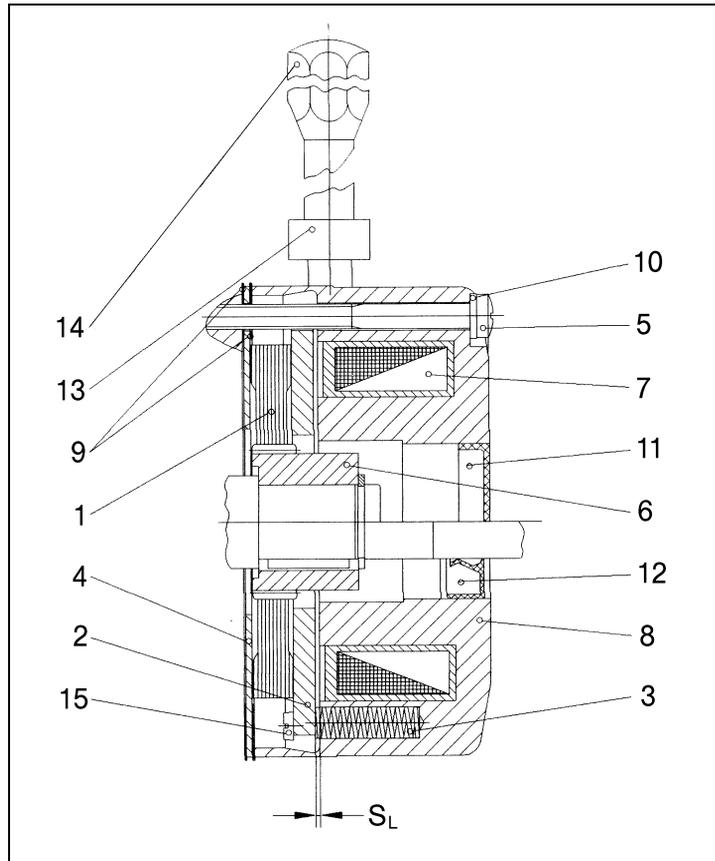

Fig 1: Spring-pressure brake, series E003B and E004B
- 3 Operating principle The operating principle is explained by Fig. 1.
- 3.1 Brakes The springs (3) press the brake disc (1) axially against the friction plate (4) via the retaining plate (2). The fillister screws (5) prevent radial movement of the retaining plate. The braking torque is transferred to the rotor via tothing between the brake disc and the driver (6) fixed to the shaft. The braking torque can be altered in stages with the number of springs (see Section 7).
If the brakes have to be fitted separately, proceed as follows (see Fig. 1):
The manual release can only be fitted when the brake is removed. Procedure (see Figs. 1 and 12):
Procedure for changing the spring configuration (see Fig. 1):
Procedure for checking the state of wear and for replacing the brake disc (see Fig. 1):